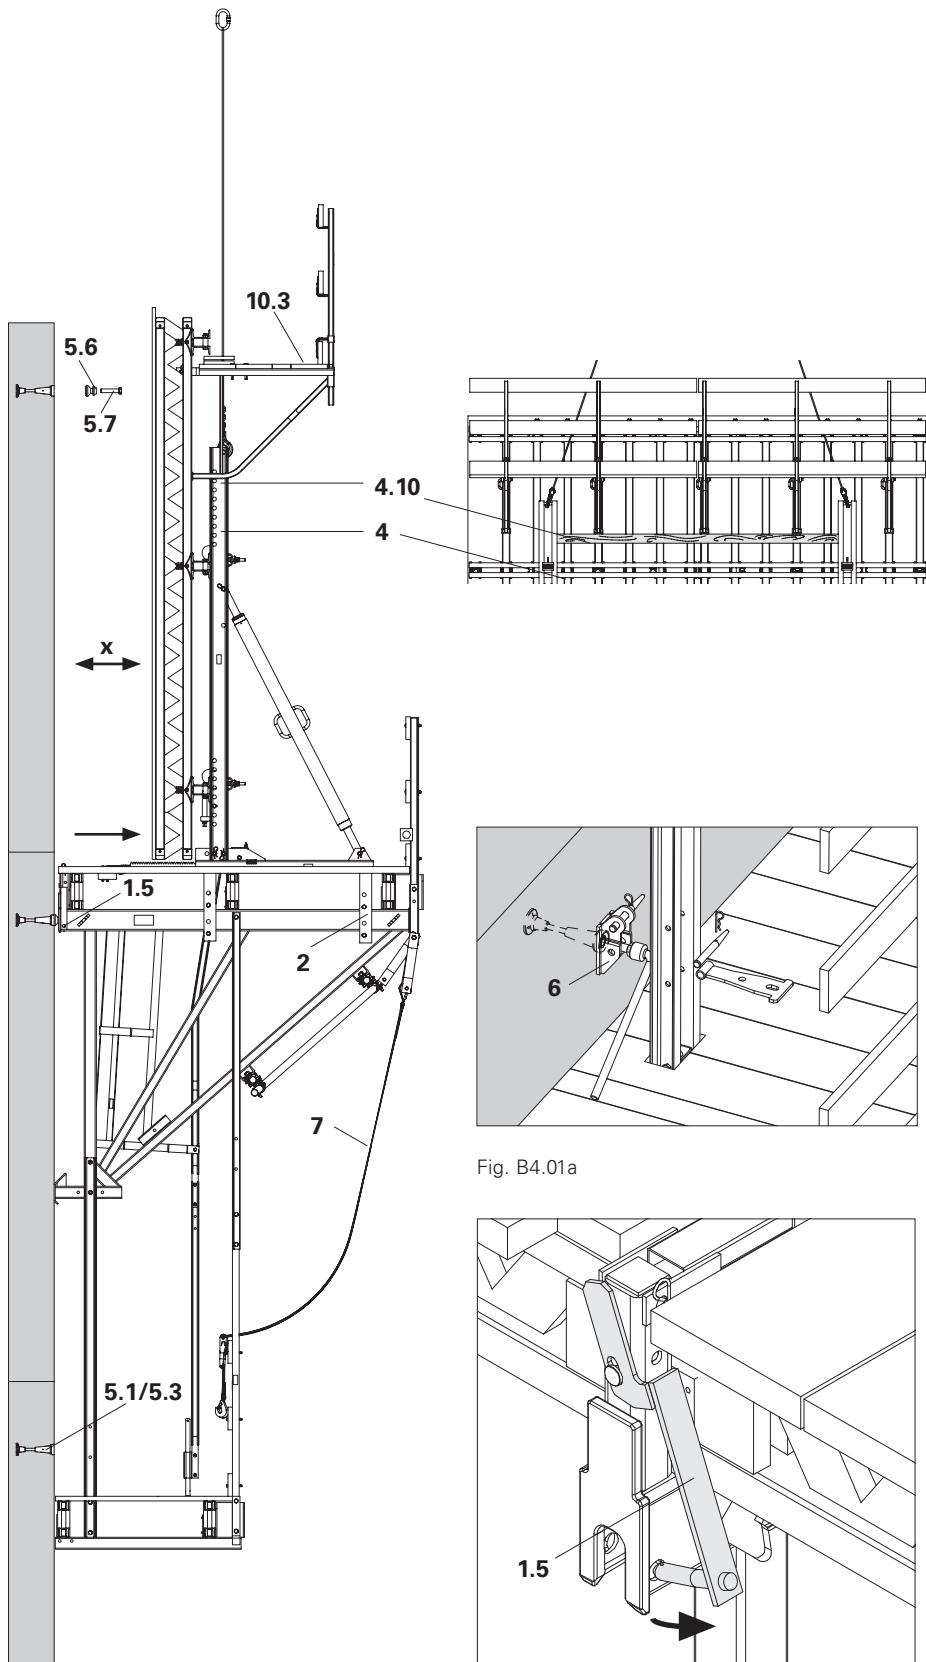

Fig. B4.01
8. Open concreting platform decking (10.3) above the Strongback. Attach climbing unit to Strongback (4).
- (Fig. B4.01)